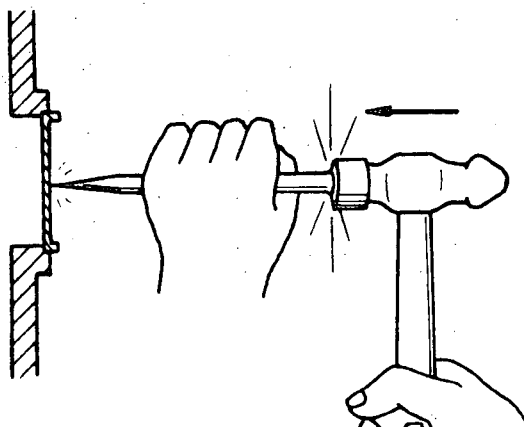

Fig. 1
- a) Puncture the plug in the centre with a punch (fig. 1).